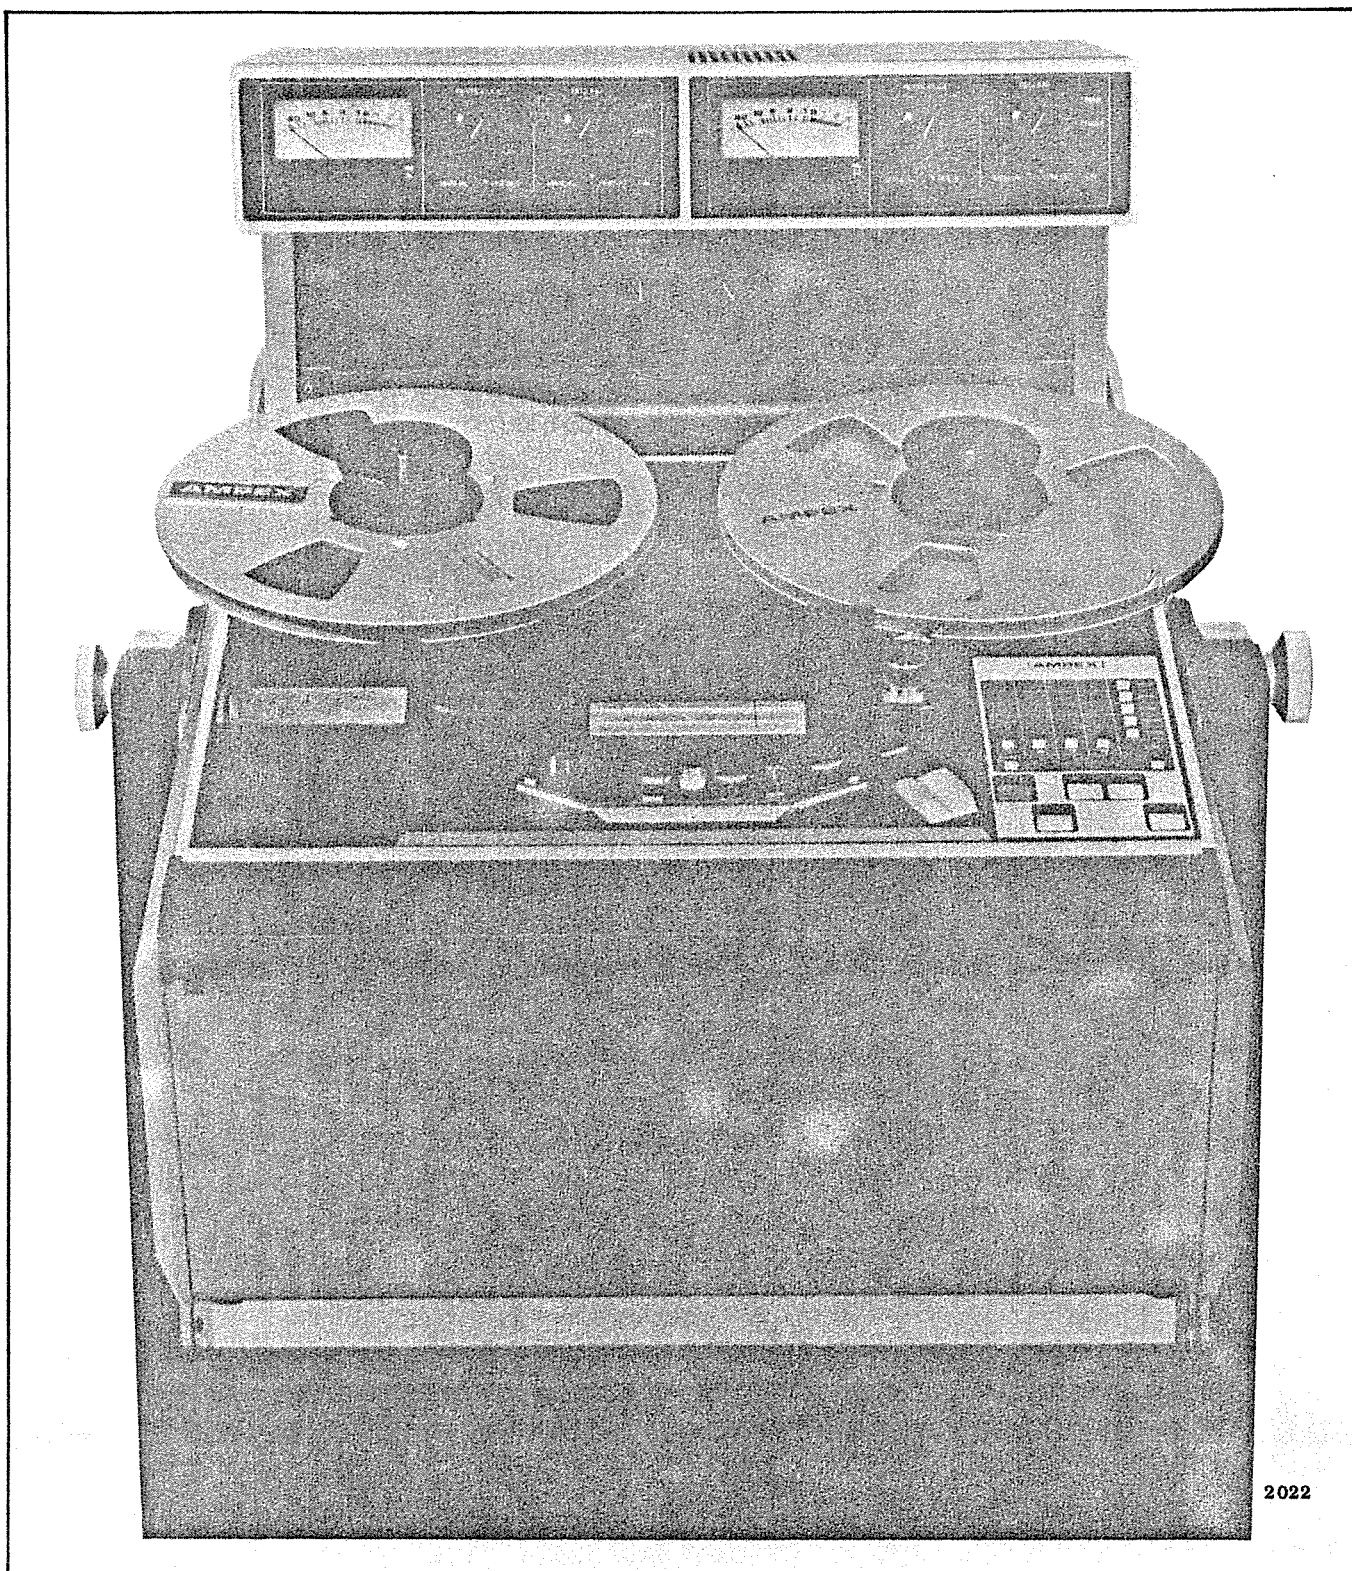

Figure 5. ATR-100 Cue Amplifier Installation Complete
10. Installation is complete (see Figure 5).